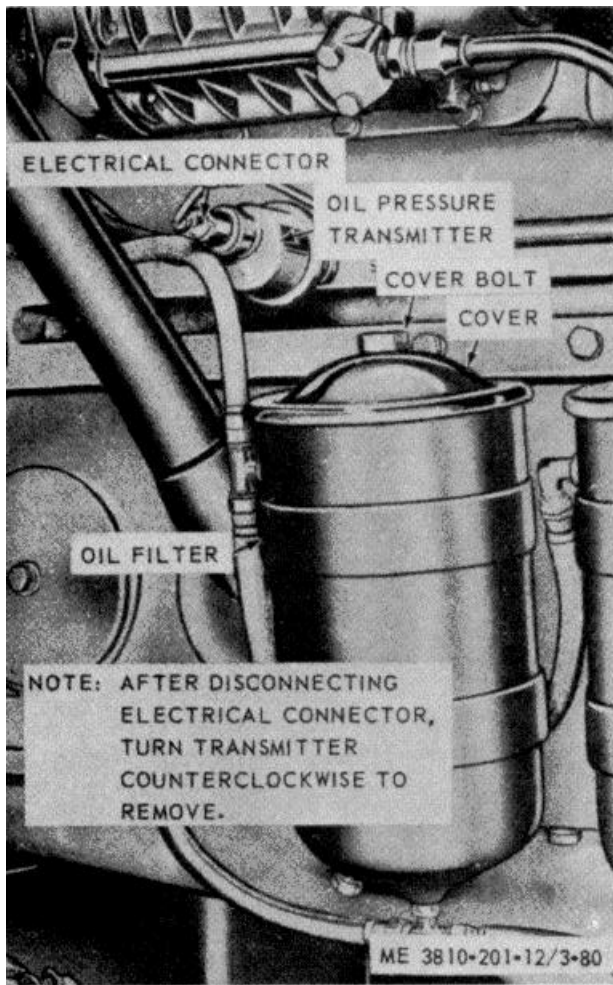

Figure 3-80. Lubricating oil pressure transmitter removal and installation.
(1) Refer to figure 3-80 and remove lubricating oil pressure transmitter from engine model 687C-18-ES. Install in reverse order.
(2) Remove lubricating oil pressure transmitter from engine model D333TA in a manner similar to that given in (1) above.